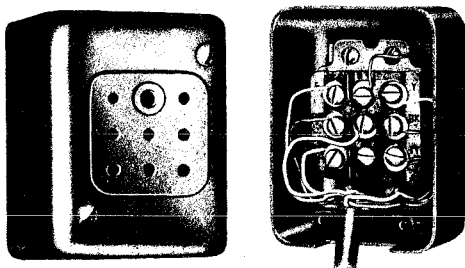

Fig. 13 — Installation of 392A Jack
6.02 Install 392A jack (Fig. 13) as follows:
1. Connect station wire to jack, and dress as shown in Fig. 13.